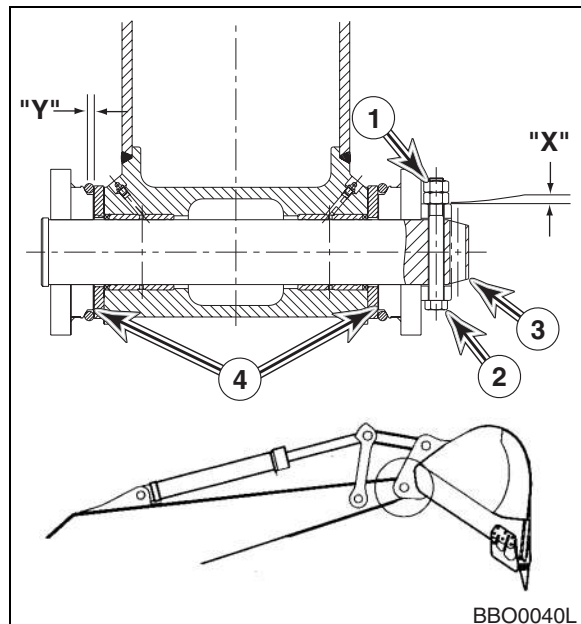

Figure 10
2. Force bucket to one side and check for end play (side-to-side) clearance under O-rings at attachment point. Total clearance should be 1 mm (0.04 in) between side face of boss and inside edge of ear bushing (Y, Figure 10). Too tight a fit (less than 1 mm (0.04 in)) can cause excessive wear while too much clearance may produce excessive noise and potentially hazardous slack control.
4. If an adjustment is required, remove two jam nuts (1, Figure 10) and bolt (2) from pin (3). Add or remove shims (4) as required. Use equal amount of shims on each side. Install bolt (2) and two jam nuts (1). Jam nuts must clear boss by 1 - 2 mm (0.04 - 0.08 in) at point (X).